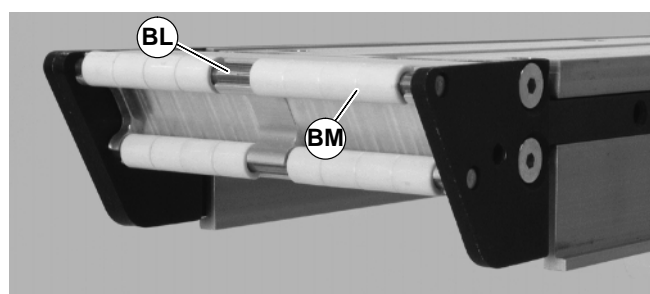

Figure 49
2. On both sides of conveyor, use a 4 mm hex-key wrench to loosen head plate fastening screws (U) to remove belt tension. Then remove belt from end of conveyor.
3. On one side of conveyor, use a 3 mm and 4 mm hex-key wrench to remove head plate fastening screws (BK & U) and remove head plate (S).
4. Slide bearing rods (BL of Figure 49) out side of conveyor and replace bearings (BM) as necessary.